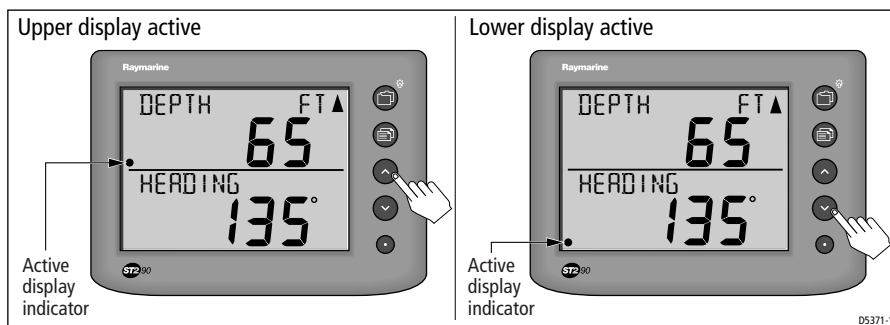

Figure 3-2: Selecting the adjustable display area
In order to make any changes to either display area (for example, to select another page or chapter), you must first select that area as the active display area. To do this, use the ▲ or ▼ button, to move the active display indicator to the required display area (see *Figure 3-2*).
1. Use the ▲ or ▼ button to select the required active display area (see *Figure 3-2*). The active display indicator moves to the selected area.